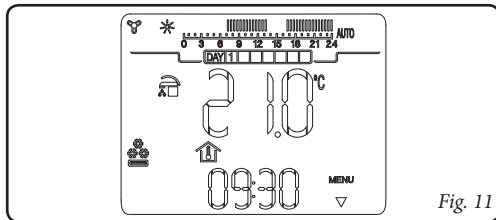

Fig. 11
- Cooling mode (❄️).** In cooling mode the boiler is enabled for the production of DHW and to control a chiller (only for models set-up) for cooling rooms. In "cooling" mode the CAR^{V2} remote control can function in automatic or manual mode. For the description of functioning see chapter 7. The display shows the day and current time, the room temperature and the hour bar with the daily programming of the cooling timer along with the relative symbols (fig. 11).